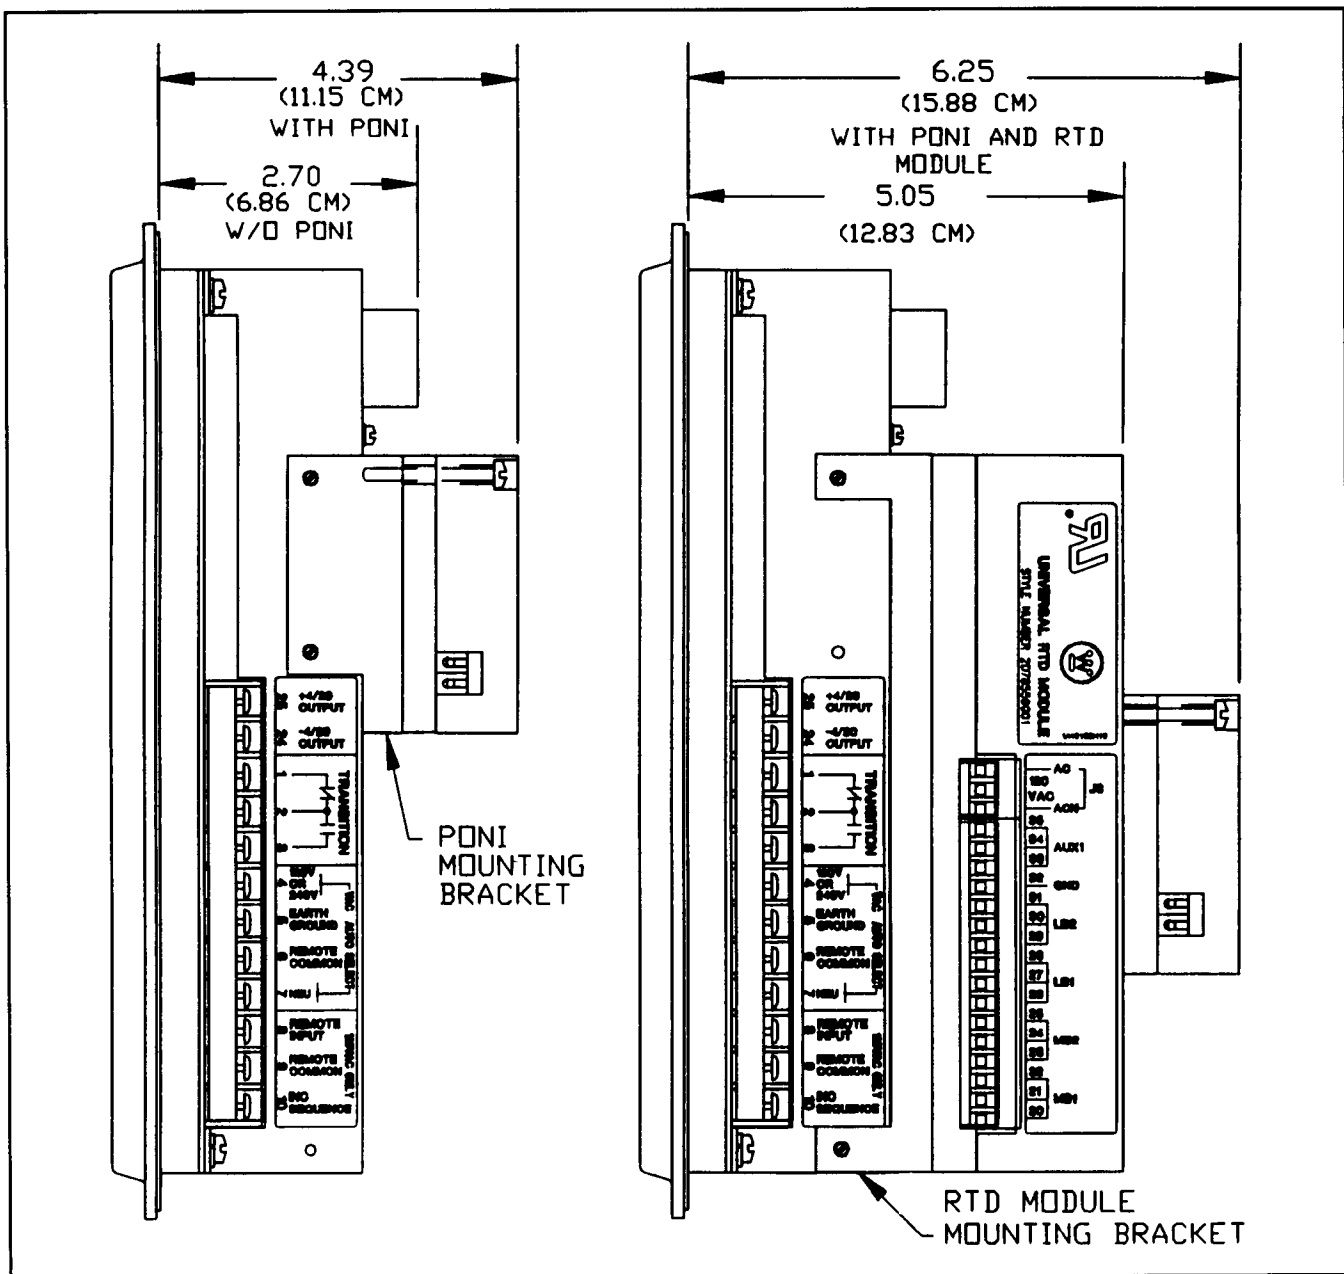

Figure 5.3 — IQ-1000 II Chassis Depth Clearances
enclosure door. The dimensions for this cutout, along with the location of six required mounting holes, are shown in Figure 5.1. Before actually cutting the metal panel, be sure that the required three-dimensional clearances for the IQ-1000 II chassis allow mounting in the desired location. (Clearances are shown in Figure 5.2 and Figure 5.3).
The RTD Module may be mounted either on the back of the IQ-1000 II by using the RTD mounting bracket (supplied with the RTD Module) or mounted remotely from the unit. If the installation requires mounting the RTD Module to the IQ-1000 II, see Figure 5.3 for overall depth clearance requirements.
**5.1.3 Communications Option** — A Communications Module (PONI card) can be connected to the IQ-1000 II for transmission of all information from the device over an IMPACC network. A PONI mounted on an IQ-1000 II can be seen in Figure 5.3. Mounting and clearance information for the PONI card is contained in a separate Instruction Leaflet, IL 17361.